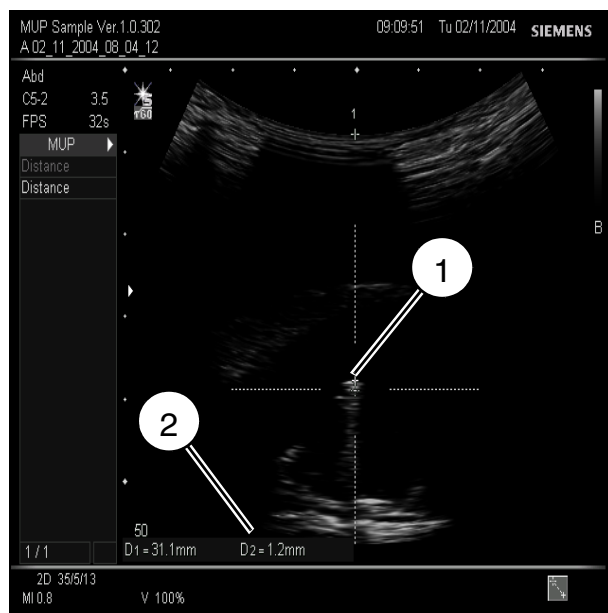

Fig. 9
- Move the trackball until the cross lies in the center of the isocenter cross (1/Fig. 9).
- The displayed value for "D2" (2/Fig. 9) must be between 1 and 5 mm. This has validity only for the default values, see instructions SPL1-130.038.01... .